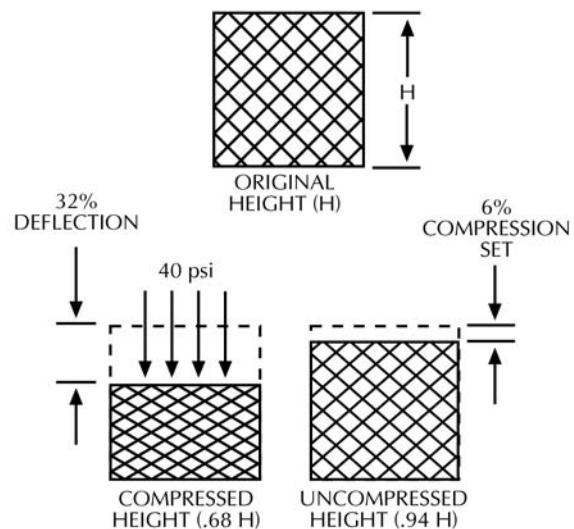

FIGURE 18
c. Compression Set Selection of a gasketing material for a seam which must be opened and closed is to a large extent determined by the compression set characteristics of the gasket material. Most resilient gasket materials will recover most of their original height after a sufficient length of time when subjected to moderate closing forces. The difference between the original height and the height after the compression force is removed is compression set. As the deflection pressure is increased, the compression set increases. See Figure 18.